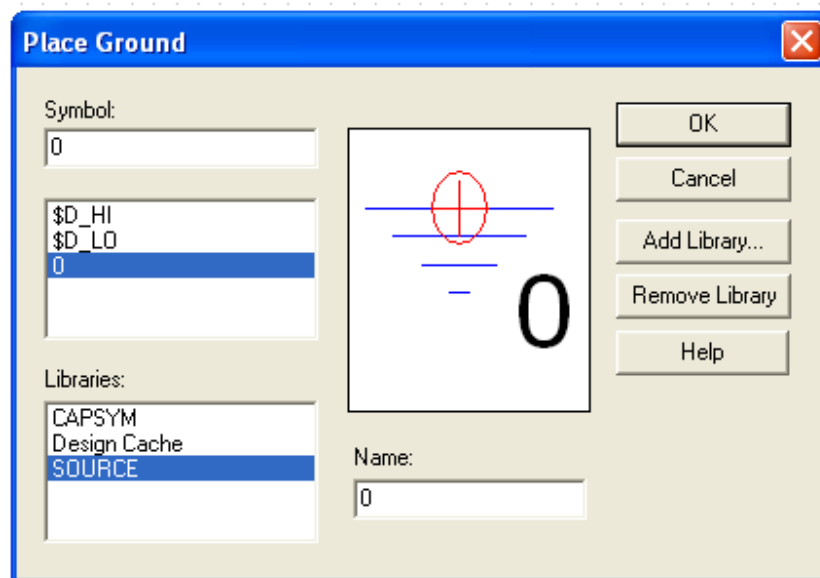

Figure 5 – Place Ground Dialog
- d. Remember in PSPICE we **ALWAYS** need a ground in the circuit, this can be found in the Place Ground menu, or by clicking the  button on the right side of the screen. The ground we will use is 0/SOURCE as shown in Figure 5.